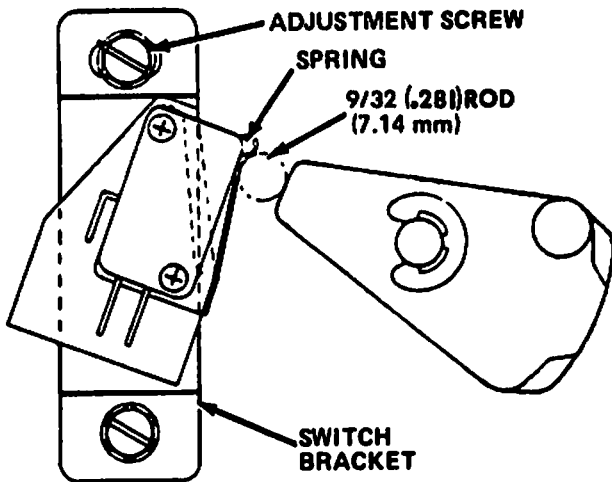

FIGURE 21 ADJUSTING STACKER SWITCH
2. Hold motor brake in (disengaged) and manually rotate motor shaft until stacker is 1/2 cycle from home position (Stacker chute is at its outermost extended position). The cam and cam switches should be accessible from below and the narrow lobe of the cam should be pointed at the switches as shown in figure 21.